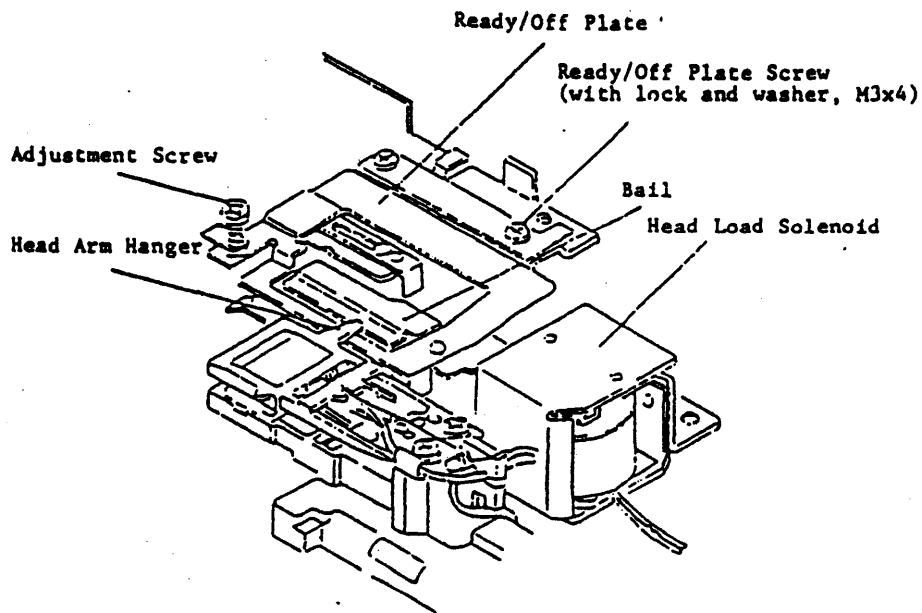

Figure 4.10.1
<p>Notes: 1) Make sure that the bosses on the carrier fit correctly into the matching frame holes when reattaching the carrier.</p> <p>2) Make sure that the Ready/Off plate is below the head arm hanger when reattaching the carrier assembly. (See page 24, figure 4.10.1)</p>
3. Take out the Ready/Off plate screws and remove the Ready/Off plate. (See figure 4.10.1)